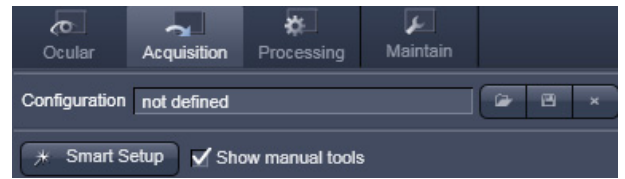

Fig. 123 Left toolbar area - Acquisition
- In the major toolbar of the left toolbar area activate the **Acquisition** button (Fig. 123).